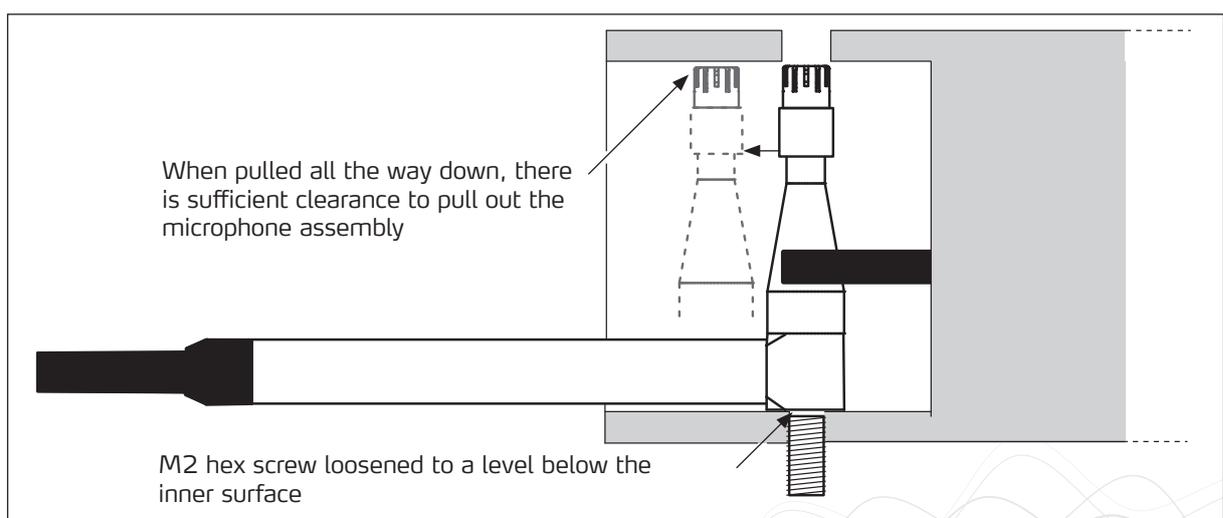

Fig. 7. The microphone assembly ready to be pulled out. Notice the clearance above the protective grid.
1. Use a 1.5 hex key to loosen the M2 hex screw and gently pull the microphone assembly out. The protective grid must be clear of the tube surface (see Fig. 7).